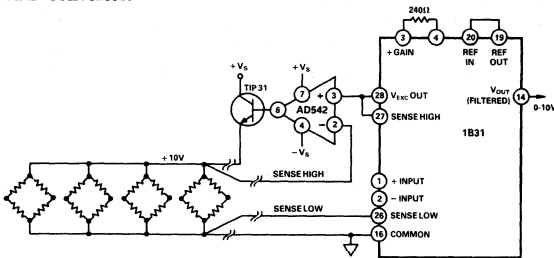

Figure 17. Multiple Load-Cell Application
**Multiple Load-Cells:** For transducer configurations where the maximum load current of 100mA of the 1B31 is not sufficient, a buffer and a power transistor such as a TIP31 can be used as shown in Figure 17. This design can supply 300mA at +10V excitation over the full industrial temperature range (-25°C to +85°C). In a multiple 1B31 system an added advantage is that ratiometric operation can be preserved by using one excitation source which also serves as the reference voltage for the system A/D converter.